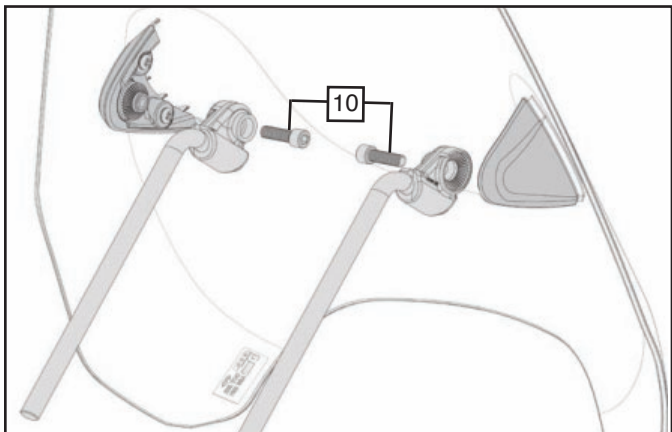

Figure 2
1. Using the two Screws (10) install the Left and Right Rod Assemblies to the Windshield. Leave Screws loose until final adjustment. **(3/16" Hex Key) Figure 2**